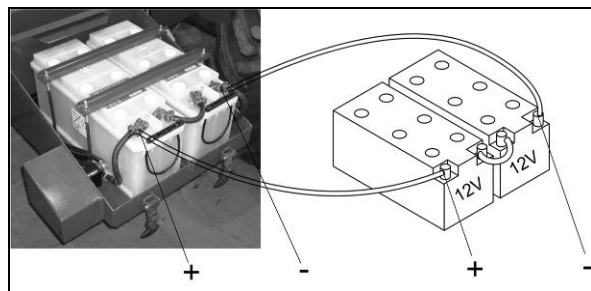

Fig. 154
1. Connect a plus pole (+) and a minus pole (-) of the two jumper batteries with each other to produce the required voltage of 24 V (Fig. 154)